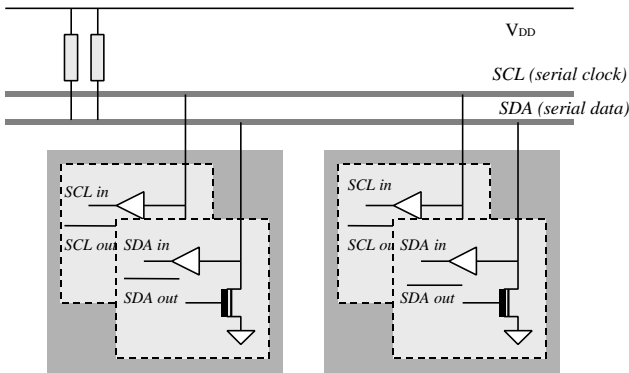

Fig. 2.2: Connection of devices to the 2-wire bus
- **Bus free:** Both SDA and SCL are bi-directional lines, connected to a positive supply via a pull-up resistor (see figure 2.2). When the bus is free, no transfer between any devices is in progress and both lines stay high. All SDA and SCL outputs of any devices connected to the bus must be open-drain (or open-collector) driven.